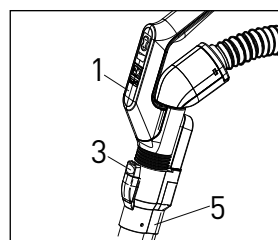
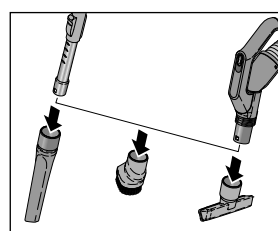

Figure 8
Figure 9
Using the Telescopic Tube, Hose & Attachments - Figures 8, 9 & 10
The telescopic tube (5) is useful for vacuuming corners and hard-to-reach areas. Connect the telescopic tube (5) to the handle grip (1). To disconnect, simply press the tube release button (3) and pull the tube off the handle (figure 8). Most SEBO accessories can be attached directly to the handle grip (1) with the telescopic tube removed (figure 9).